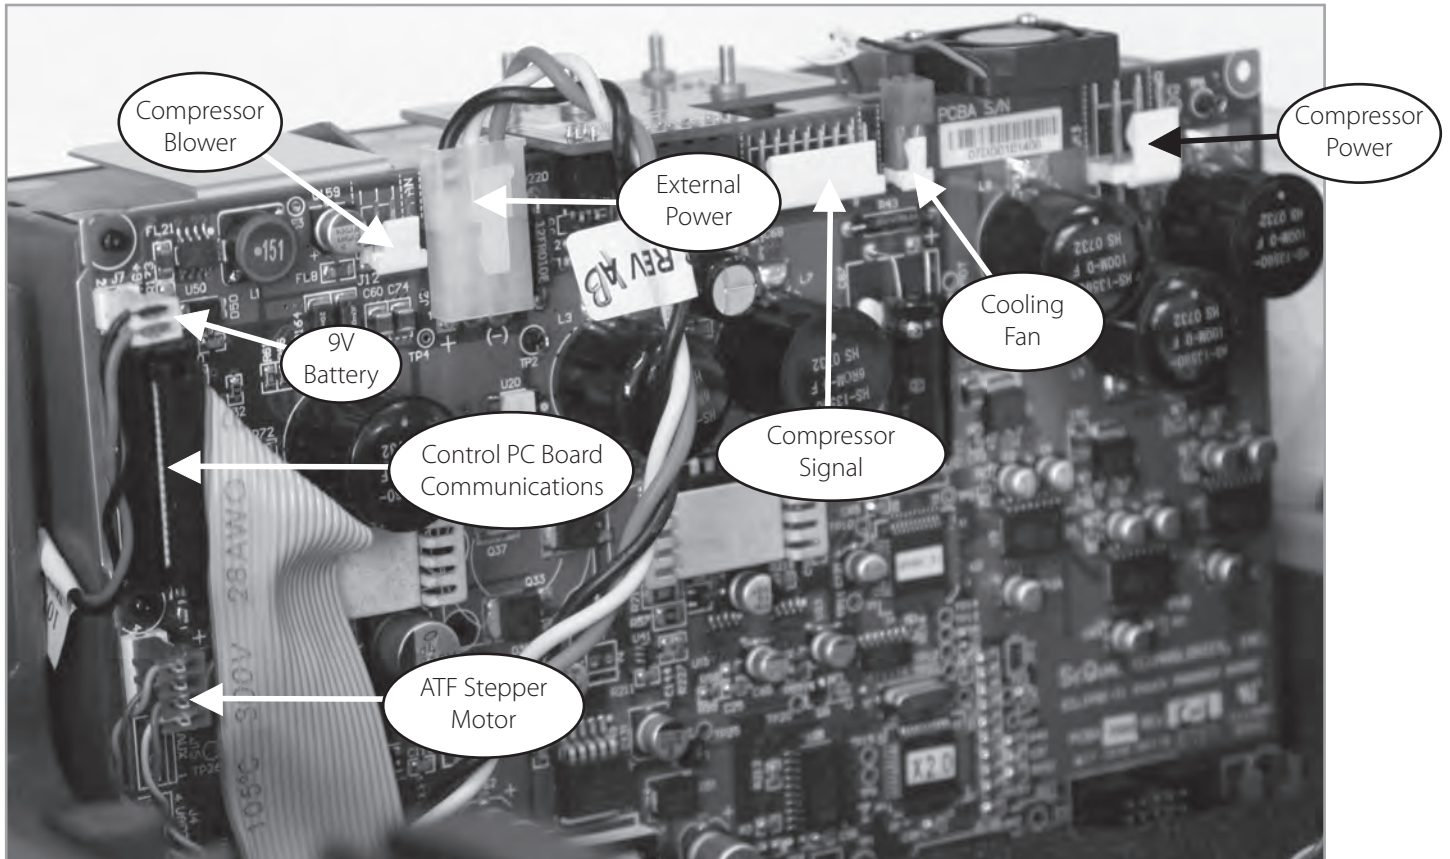

Figure 60: Power Manager PC Board Connector Diagram (Early Production E3)
7. Position the new Power Manager PCB 1" out of the unit case as shown in Figure 60. Gently push the Compressor Box away from the Power Manager PCB by 1/8". Connect the 2 wire harnesses and the ribbon cable. Position the Power Manager PCB into the slots on the Unit Case.